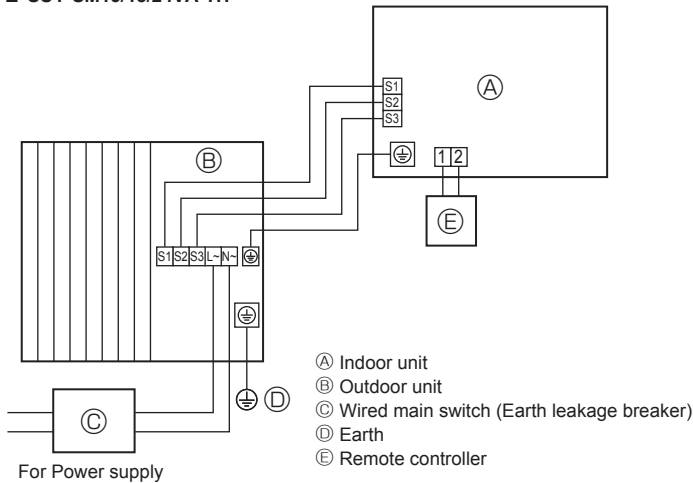
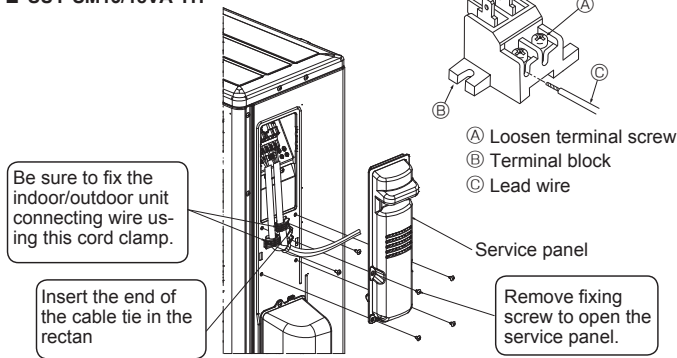
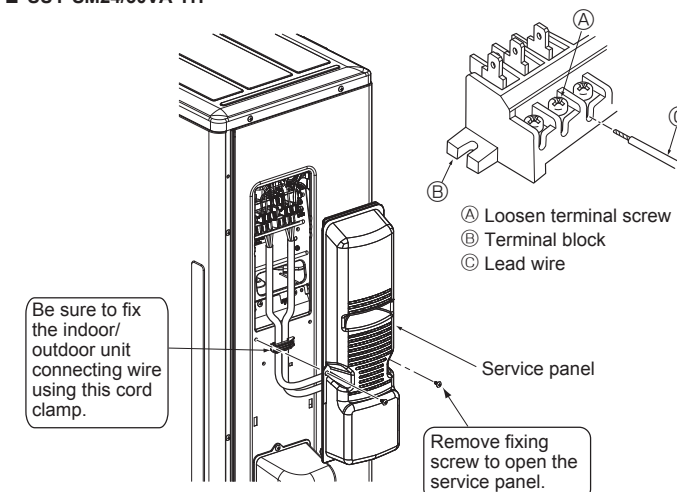

Fig. 5-1
Fig. 5-3
Fig. 5-4
5.1. Outdoor unit (Fig. 5-1, Fig. 5-2, Fig. 5-3, Fig. 5-4)
- ① Remove the service panel.
- ② Wire the cables referring to the Fig. 5-1, Fig. 5-2, Fig. 5-3 and the Fig. 5-4.